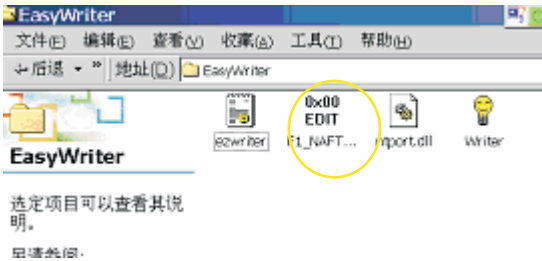

Fig. 5
- Step 5 :Copy the .hex code to C:\easywrite as shown in Fig. 5 .